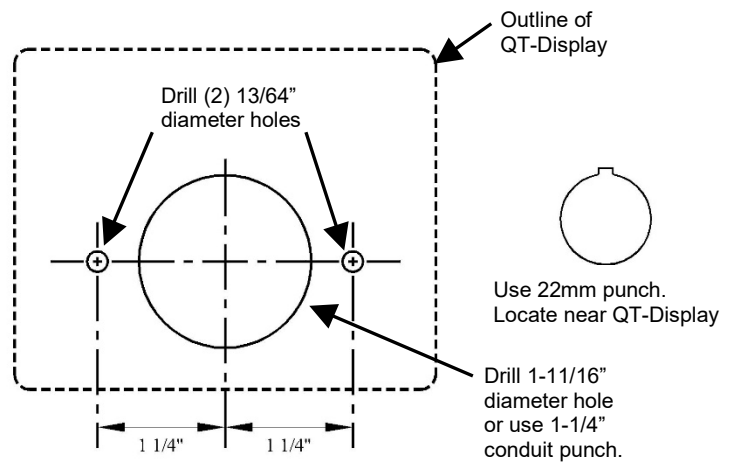

Figure 10: QT-Display & QT-Switch drilling plan
1. Find a suitable location on the cubicle door and mark the location of the three (3) holes using the dimensions in Figure 10.
2. Drill two (2) 13/64" mounting holes.
4. Attach the QUICK-TRIP Display to the front of the cubicle door using two (2) 10-32 hex nuts, flat washers and lock washers.